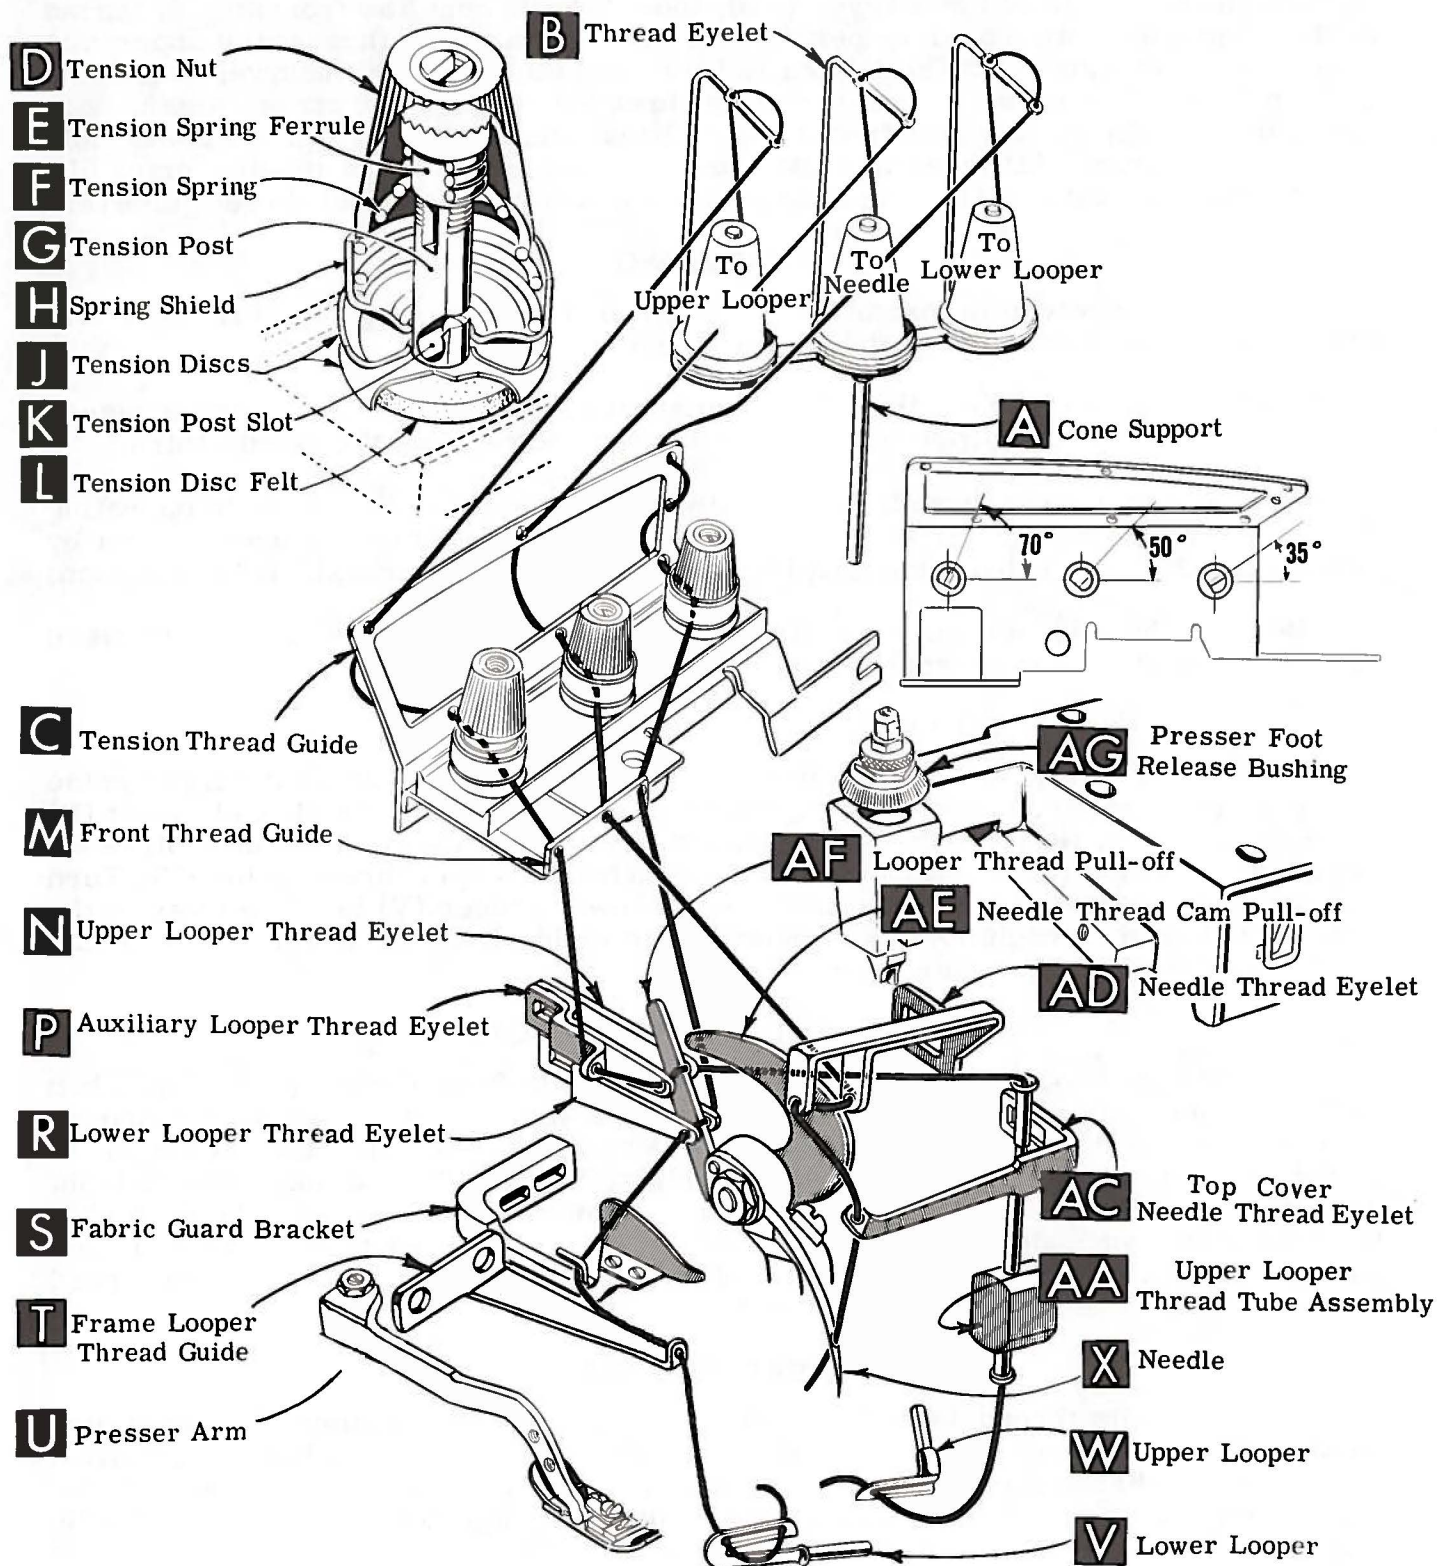

Fig. 1
Release pressure on presser foot by turning presser foot release bushing (AG, Fig. 1) and swing presser arm (U) out of position. Turn handwheel in operating direction until needle is at its lowest point of travel. Using hexagonal socket wrench No. 21388 AU, furnished with machine, loosen needle clamp nut about 1/4 turn. Again turn handwheel until needle is at high position; withdraw needle.
After thread comes from cones on cone support (A, Fig. 1), they are brought up through the back hole of thread eyelet (B), then down through the front hole of thread eyelet. The needle and upper looper threads are then threaded through the upper hole of tension thread guide (C) from front to back, and then through the lower hole from back to front. The lower looper thread is threaded through the upper hole back to front, through the middle hole from front to back, and finally through the lower hole from back to front. All three threads then continue between the tension discs (J), through tension post slot (K) in tension post (G) and on through front thread guide (M).
Only parts involved in threading are shown in threading diagram (Fig. 1). Parts are placed in their relative positions for clarity.
Double end of thread and lead it through the right eyelet of front thread guide (M, Fig. 1). Then lead thread through both eyes of lower looper thread eyelet (R) from right to left. NOTE: Thread must pass in front of looper thread pull-off (AF). Lead thread behind fabric guard (S) and through frame looper thread guide (T). Turn handwheel in operating direction until heel of lower looper (V) is all the way to the left, then thread through both eyes from left to right. Left eye of lower looper can be threaded easily if tweezers are in left hand.
Thread needle thread through middle eyelet of front thread guide (M). Then turn handwheel in operating direction until needle (X, Fig. 1) is at its highest position. Insert needle thread from right to left, through both eyes of needle thread eyelet (AD), under neck of top cover casting; then down through hole in top cover needle thread eyelet (AC). Thread needle from front.
The amount of tension on the needle and looper threads is regulated by knurled tension nuts (D, Fig. 1). Tension on threads should be only enough to secure proper stitch formation.
Be sure machine is threaded according to threading diagram Fig. 1. With thread tensions light, set looper thread eyelets (N and R, Fig. 1) approximately horizontal and in the middle of their front to back locations. Operate machine slowly, without presser foot in place, to make sure chain forms and moves off stitch tongue freely. Swing presser foot into position, insert material and sew slowly.
While sewing on material, check needle thread control as follows: Usually all needle thread is drawn on needle down stroke. At top of needle stroke, thread should be just tight enough to feed chain off stitch tongue. Stitch tends to pull down slightly if excessive thread is pulled on the up stroke. With needle at bottom of stroke, position needle thread eyelet (AD, Fig. 1) so that needle thread cam pull-off (AE) just contacts needle thread.
With material under presser foot, set lower looper thread eyelet (R, Fig. 1) back far enough so thread is a little slack when looper thread pull-off (AF) reaches its most rearward position. Looper thread pull-off (AF) is set about $1/32$ inch (.79 mm) distance behind needle thread cam pull-off (AE). Frame looper thread guide (T) should be set with its eyelet approximately $1/8$ inch (3.17 mm) to the right of lower looper (V) heel eyelet at the time lower looper is at extreme left end of its travel.
Before proceeding to adjust upper looper thread eyelet (N, Fig. 1) balance all three tensions to give a normal appearing stitch. Moderate change in these tensions will not markedly affect the purl.
To move the purl more under the edge, both looper thread eyelets (N and R, Fig. 1) should be raised keeping the same amount of pull-off. Usually it is better to have slightly more pull-off on upper thread than on lower thread.